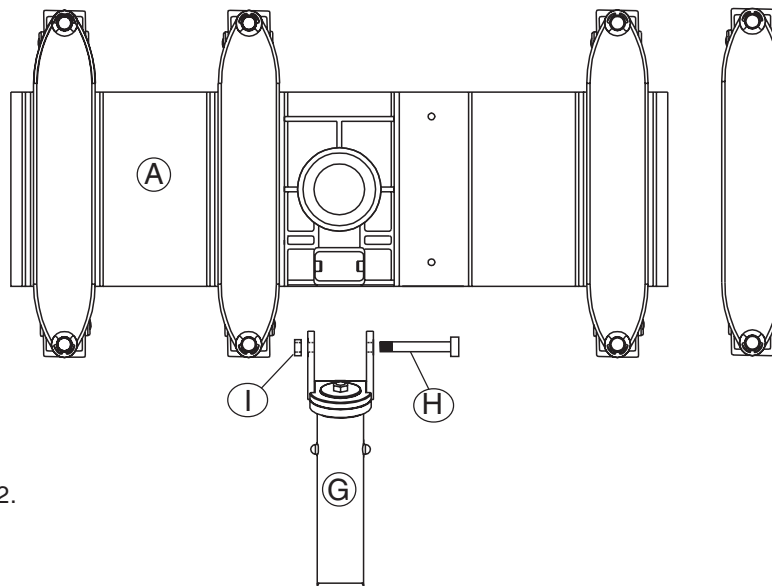

Figure 2.
2. Attach the chrome handle (G) onto the vacuum body (A) by inserting the bolt (H) through the chrome handle and through the hole in the vacuum body. Tighten the nut (I) onto the bolt to secure the handle. See Figure 2.